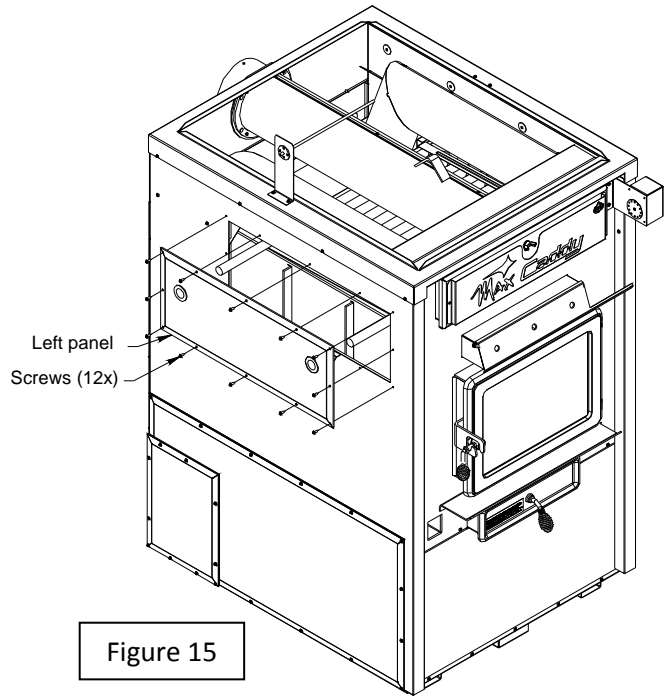

Figure 15
Step 5: Insert then slide the inlet and outlet tubes of the assembly through the grommets and secure the panel to the furnace using the screws removed in step 2. (Figure 15)